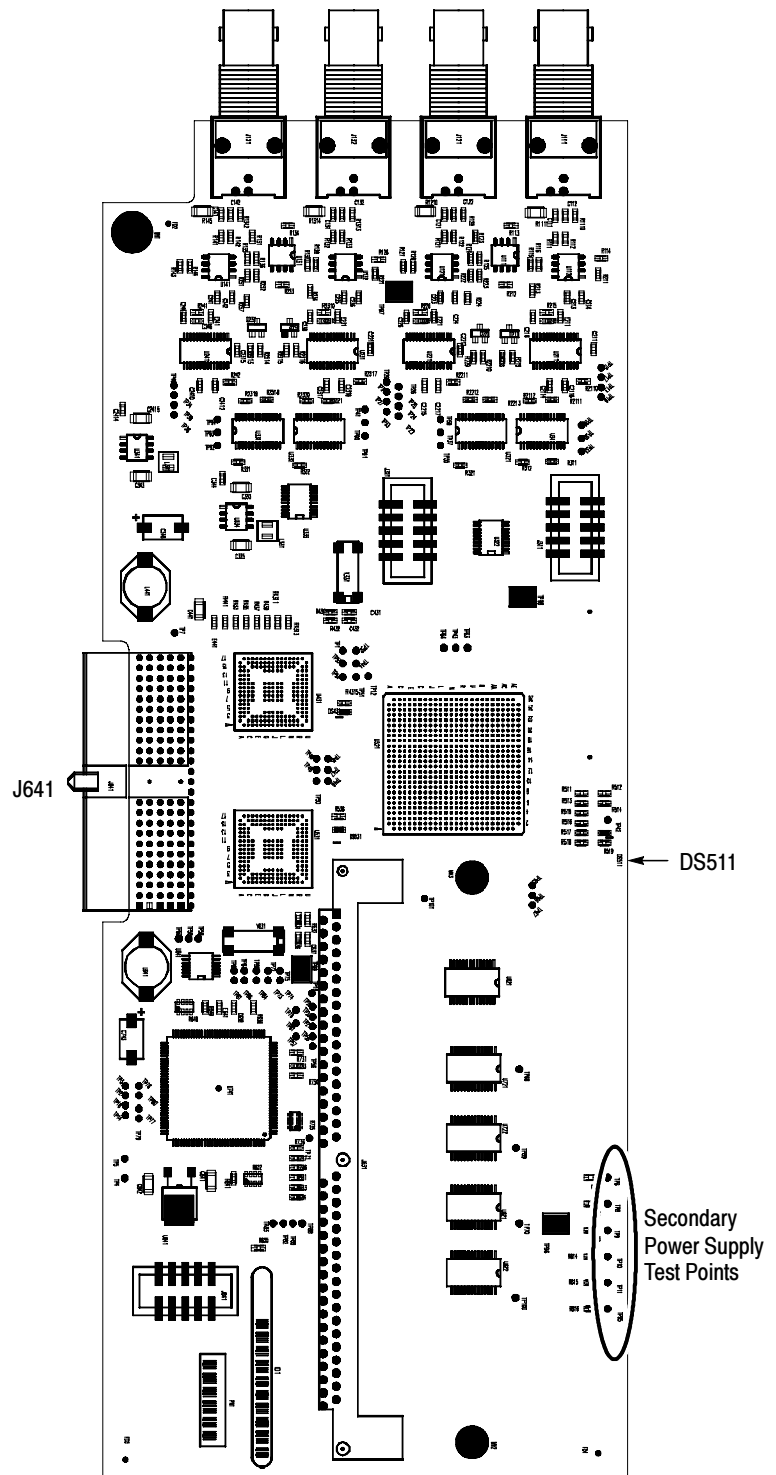

Figure 4-2: Audio Main board power supply test point locations
- a. Check Audio board DS511, the FPGA programmed indicator (see Figure 4-2 on page 4-20). If this LED is off, skip to step b; otherwise probe pin D21 of connector J641 of the Audio board (the connector to the Main board) during the boot sequence. If the signal on the pin toggles, replace the Main board; otherwise, replace the Audio board.